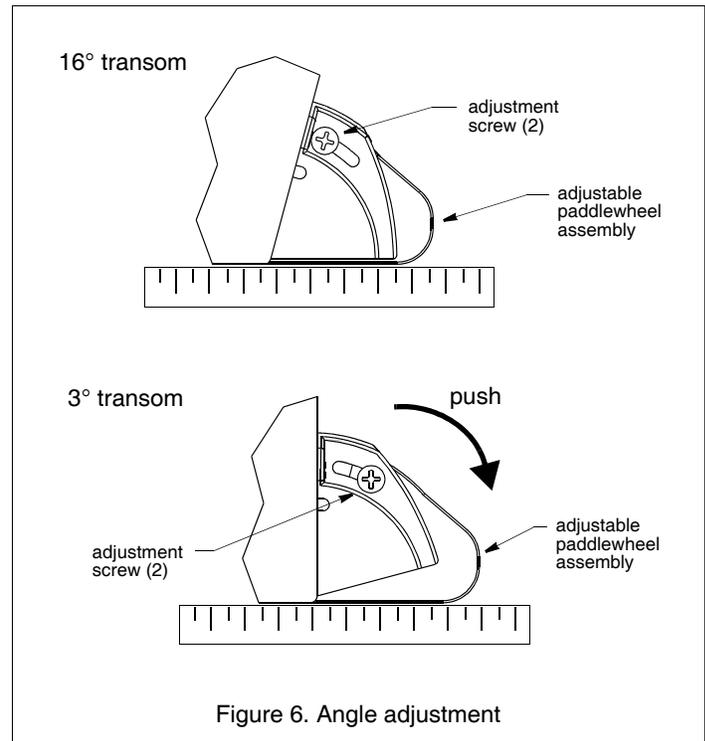

Figure 6. Angle adjustment
1. Holding a straight edge against the bottom of the hull, push the adjustable paddlewheel assembly down until it touches the straight edge and is flush with the bottom of the hull (see Figure 6). Tighten the adjustment screws to 1/4 turn past snug. *Do not over tighten.*